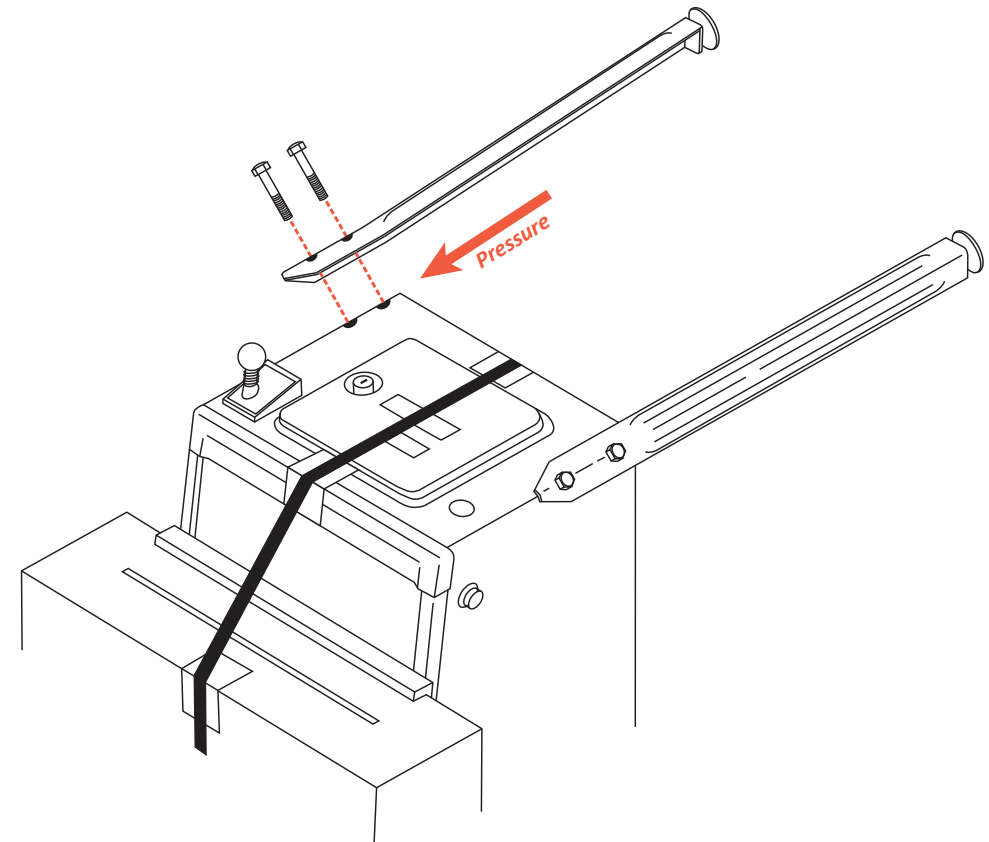

Figure A5. Installing the front legs.
**5)** Locate the eight acorn-head leg bolts in the loose parts. Thread 2 leg bolts through each leg and attach it to the cabinet (see figure A5). Using a 5/8" socket and ratchet or a 5/8" wrench, tighten the bolts firmly, while maintaining pressure (in the direction of the red arrow) on each leg.